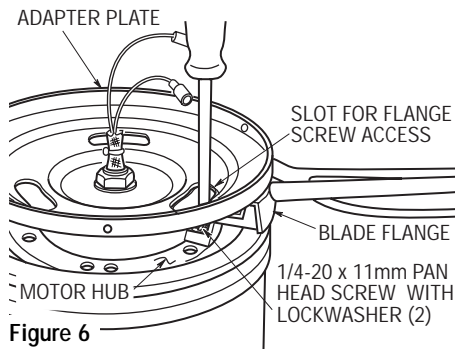

Figure 6
- 10. Align one of the threaded holes in the motor hub with one of the slots in the adapter plate (Figure 6). Position the blade flange on the motor hub so one of the screws in the blade flange aligns with this threaded hole. Loosely tighten the screw. Rotate the motor hub until the other flange screw can be tightened through the slot of the adapter. Repeat this procedure for the remaining four blade assemblies, then securely tighten all the screws.